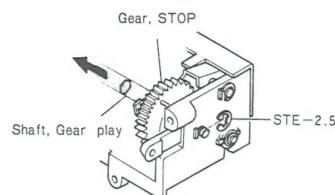

Fig. 15
4) Take off the E-ring, and remove the axis (gear play). At this time be sure to keep the gears in their proper order. (See figure 15)